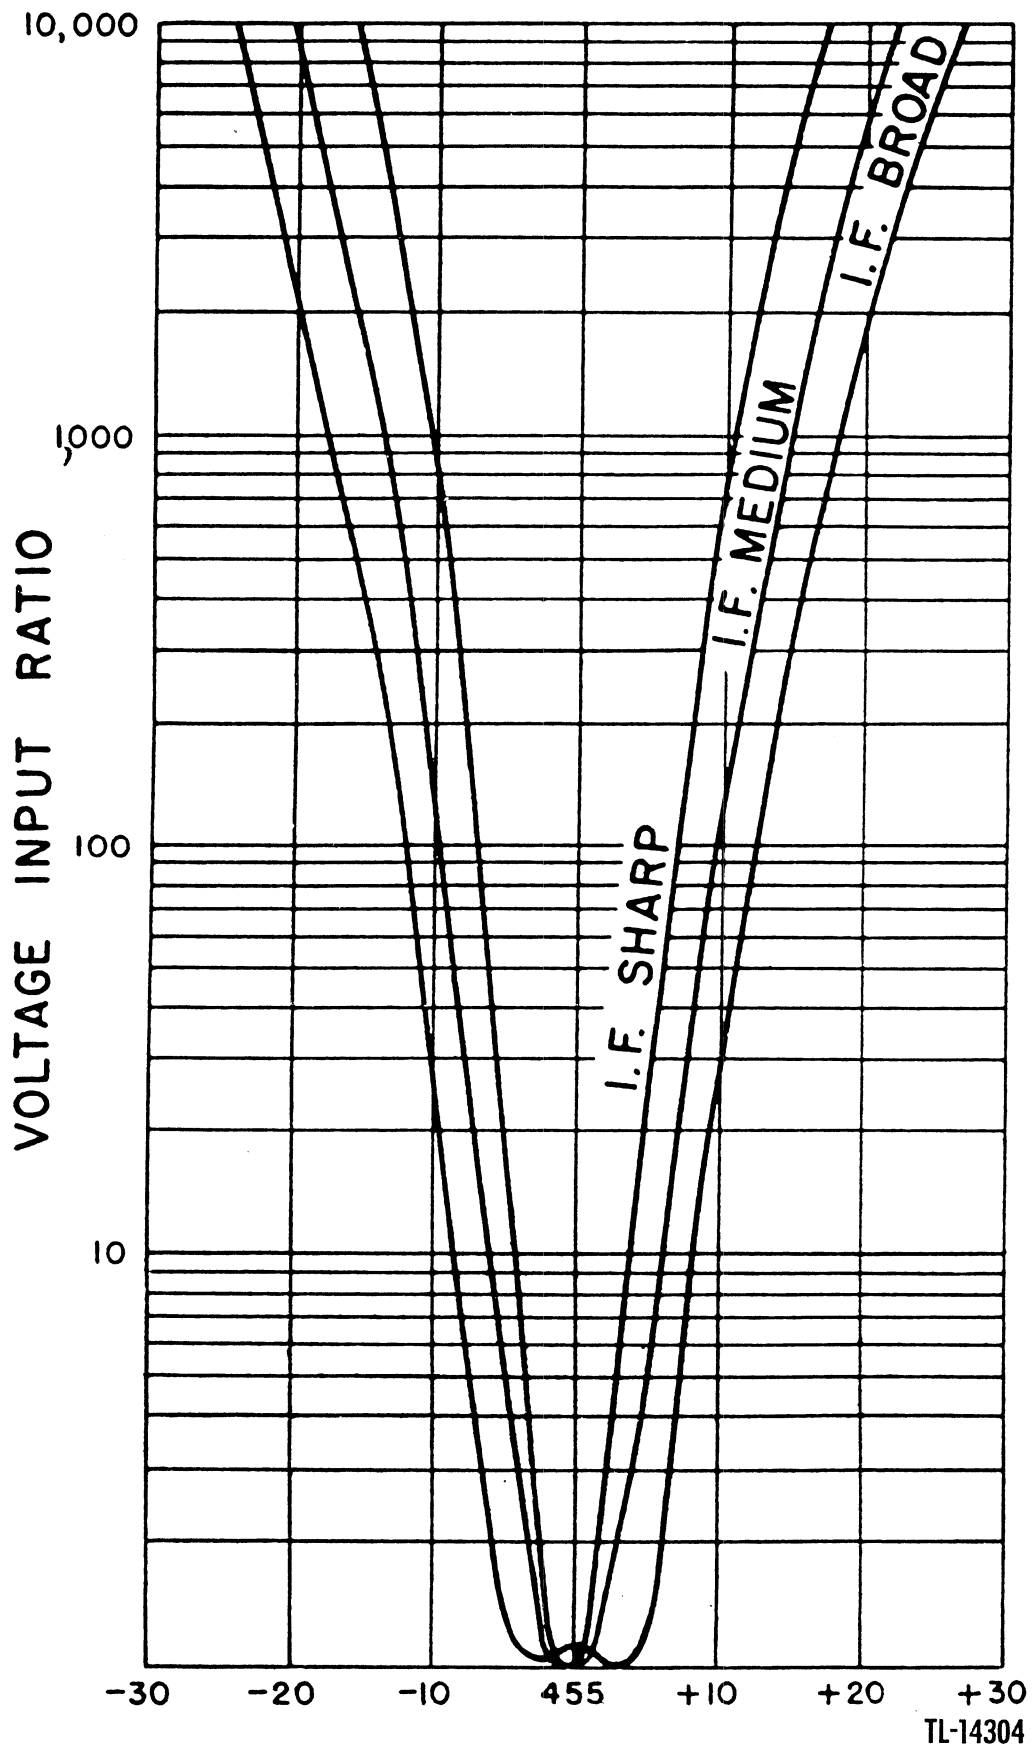

Figure 4. I-f selectivity curves without crystal filter.
**b. Selectivity.** The selectivity of the receiver is determined by the band pass of the i-f circuits. The SELECTIVITY control, in conjunction with the crystal-filter circuit, provides six degrees of selectivity. The width of the band pass is variable from a few hundred cycles at SHARP CRYSTAL position, to approximately 25 kc on BROAD I.F., at 50 percent down on the selectivity curves (figs. 4 and 5).
(8) The AVC — BFO switch is normally used in the A.V.C. ON position for modulated signals. For weak signals, however, the A.V.C. OFF position will give slightly greater sensitivity.
(9) The B.F.O. control varies the frequency of the audio output when the AVC — BFO switch is to B.F.O. ON position and a signal is tuned in.
(10) The RECEIVE — SEND switch must be in the RECEIVE position to operate the receiver, but may be placed in the SEND position if the receiver is not needed for short periods. In the SEND position the heaters remain at operating temperature. Only the high voltage is removed from the receiver circuits.
(11) The A.N.L. control is used to reduce electrical or ignition noises. Normally the control is left in the O position.
(12) The SELECTIVITY control is used to reduce signal interference. Three positions place the i-f crystal filter in the circuit. The other three positions do not. Whenever possible, the BROAD I.F. position should be used for voice reception, since the fidelity of the receiver is decreased as the selectivity is increased. For c-w reception any position of the control may be used to increase the selectivity. Figures 4 and 5 show the selectivity curves for the six positions.
- (4) XTAL BROAD (similar to sharp i.f. but sharper cutting of side bands).
- (5) XTAL MED. (next selectivity step after (subparagraph (4) above), greatly increased side band cutting, more pronounced crystal filtering of interference, very few high-frequency components present).
- (6) XTAL SHARP (position of extreme selectivity, practically no side bands, very pronounced crystal filtering).
d. The graphic effects of the different steps of selectivity on a signal are shown in figures 4 and 5. The crystal filter circuit is effectively a series resonant circuit which readily conveys all signals of the crystal frequency to the grid of the next tube. However, to frequencies slightly higher than the crystal frequency, the crystal and holder form a parallel resonant circuit which opposes the transfer of signal. Thus the crystal only transfers signal on the low-frequency side of the series resonant frequency of the crystal circuit. The bandwidth of the crystal and transformer secondary circuits can be varied by shifting the resonant frequency of the transformer secondary.